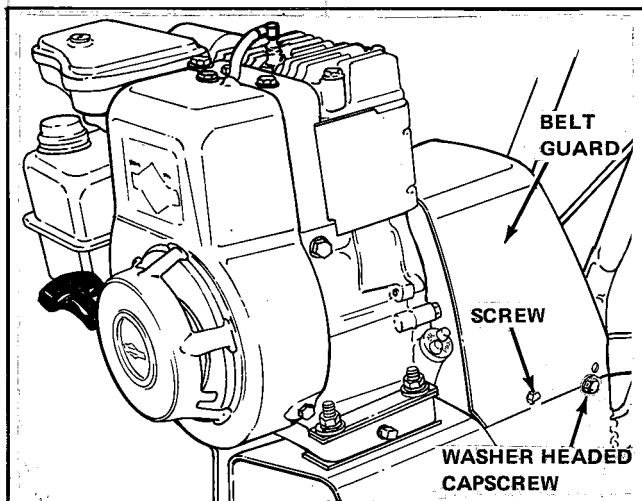

Figure 15. Belt Guard Removal
For model 1003 tiller, remove the belt guard (see figure 15). Then remove the drive belt from the engine pulley first, and then off the machine. Install new belt in reverse order of removal. Check and adjust belt stops and clutch according to the Adjustment Section. Reinstall belt guard.
1. Remove belt guard (see figure 15).
For access to some adjustment points, the belt guard (figure 15) must be removed. To remove the belt guard, remove the two screws (one on each
Remove all parts from their containers and arrange all parts by size and type. Remove tape to remove control rods and cable from handles. For access during assembly, remove two captive screws to remove the belt guard (see Figure 15). To install the handle assembly, proceed as follows: